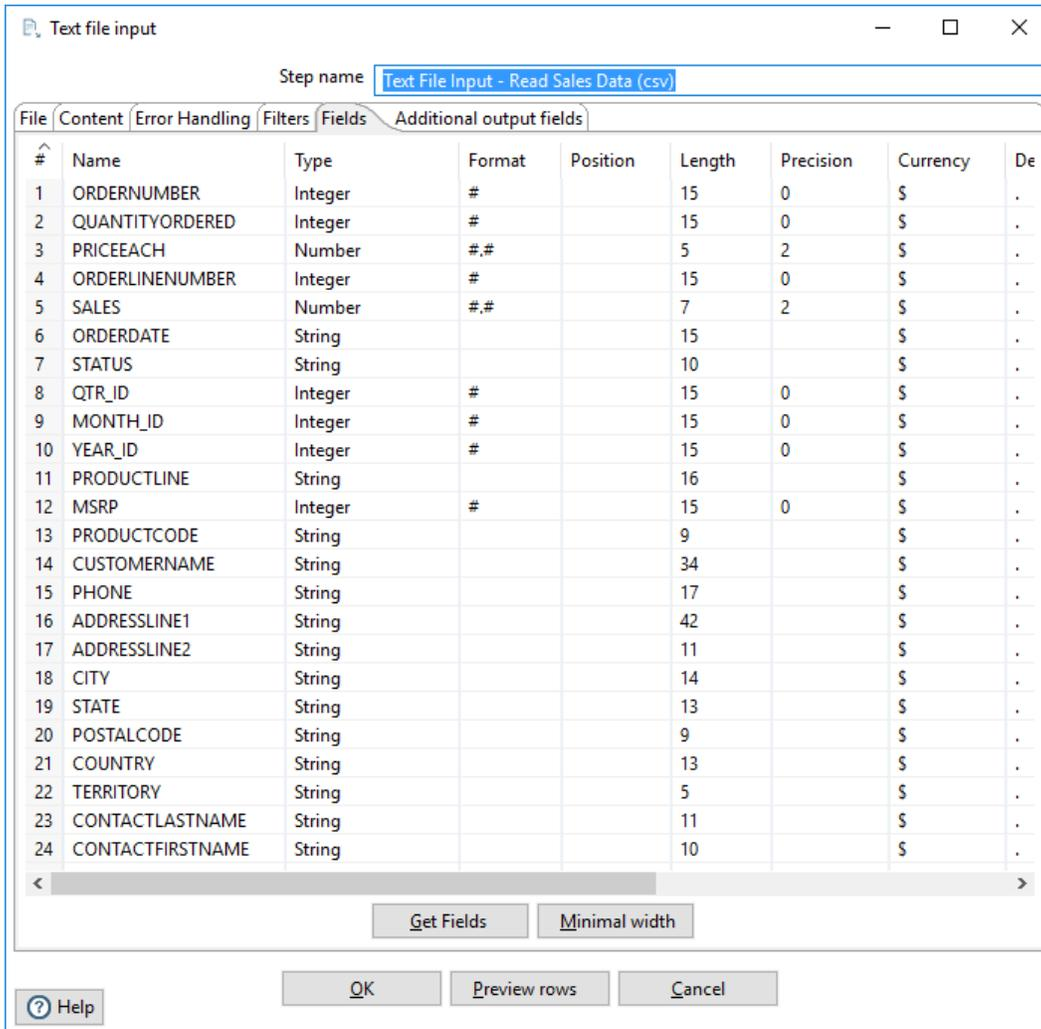

Figure 2: Text File Input - Get Fields Option
11. Click on **OK**, and you should end up with something similar to Figure 2:
6. On the **Fields** tab, click on **Get Fields** to obtain the metadata information from the step that you configured earlier. It should look about the same as it did for the **Get Fields** in Figure 2.